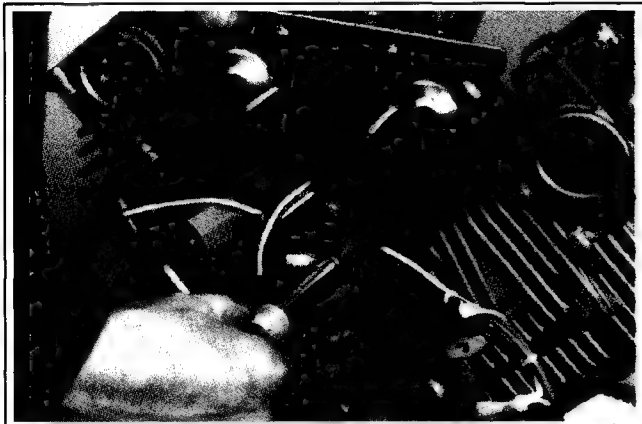

Figure 9-34. Removing Valley Baffle.
2. Remove the hex. flange screw from the front side of the baffle and remove the baffle. See Figure 9-34.